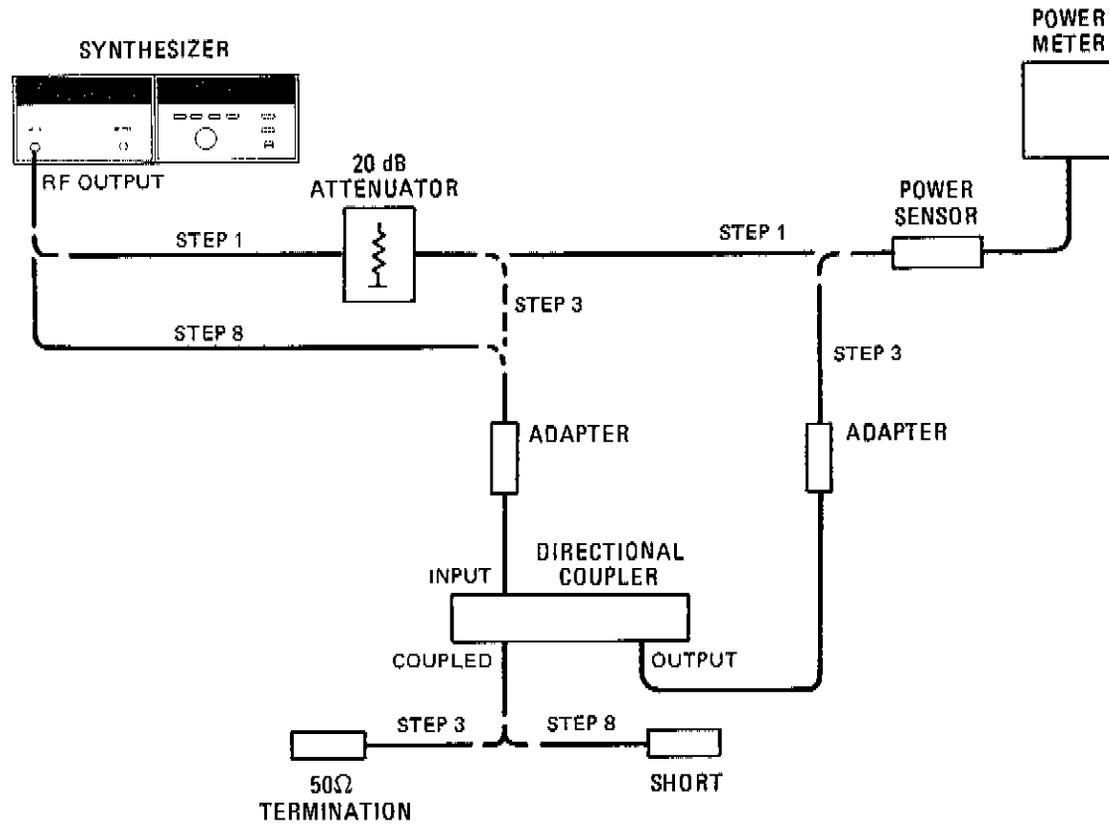

Figure 4-2. SWR Test Setup
1. Set Synthesizer's controls for an output of 2.1 GHz, connect the 20 dB attenuator to Synthesizer's RF OUTPUT connector and measure the power output with the power meter. (Refer to Figure 4-2, Step 1.)
3. Connect the equipment as shown in Figure 4-2 (Step 3).
8. Connect equipment as shown in Figure 4-2 (Step 8).